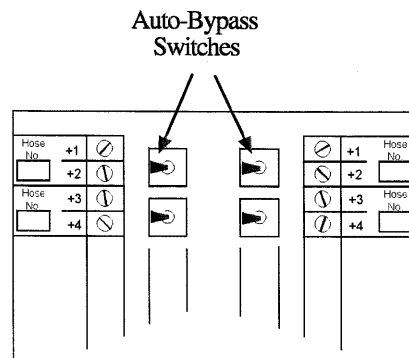

Figure 4-3 Location of Switches in the Data Distribution Box. *The Auto/Bypass switches connect or disconnect a dispenser from the control system.*
1. In the Data Distribution Box, set the Auto/Bypass switch for the dispenser to the Bypass position. See Figure 4-3